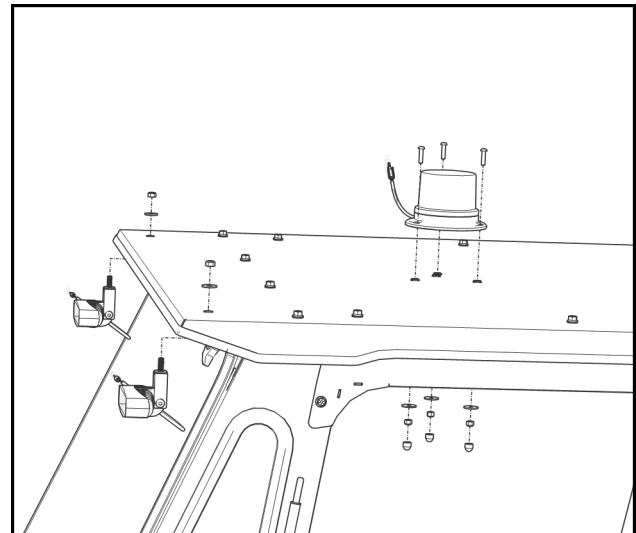

Fig. 1.4 (Remove accessories from roof)
- 1.4 If front LED lights are installed, disconnect the wires and remove the lights from the roof. See Figure 1.4.